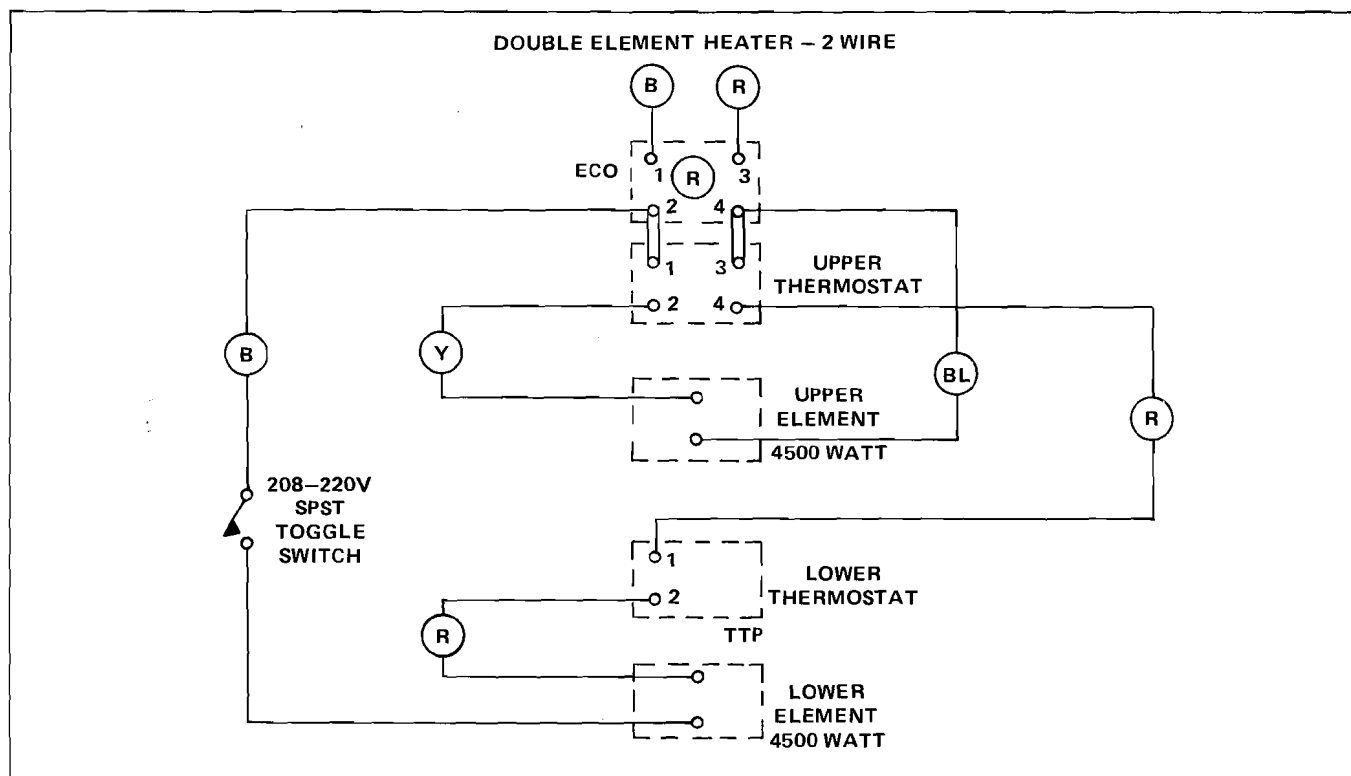

FIGURE 6 - HEATER ELEMENT SCHEMATIC
- (1) One tank system using homeowner's existing electric hot water tank.
- (a) If your existing electric tank has two (2) elements and you choose to have a one-tank system, then the lower element must be disconnected for proper solar system operation. If the tank volume is below that recommended for a one-tank system (minimum [1] tank system should have a 66 gal. tank) you can switch the lower element on so you can reactivate the lower element during high water demand periods (see figure 6). A licensed electrician should do any wiring associated with installation of this disconnect switch.